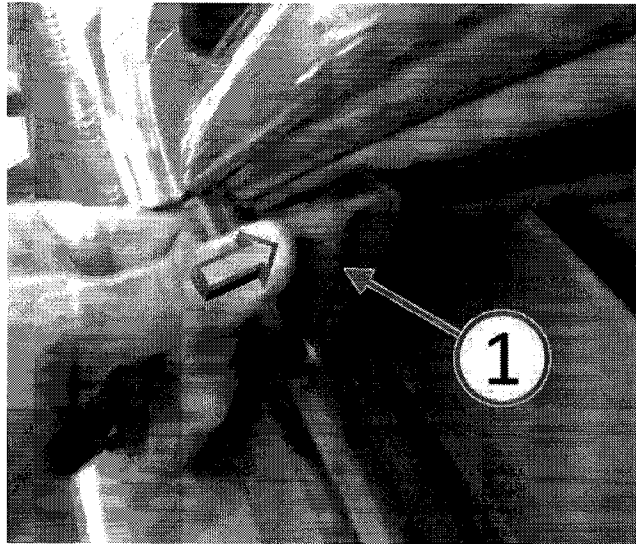

Fig. 2 Push In On The Window Flag
5. Apply slight pressure to the outboard side of the seal flag. This will reposition the metal tab inside the seal flag moving the seal flag tighter to the glass surface (Fig. 2).